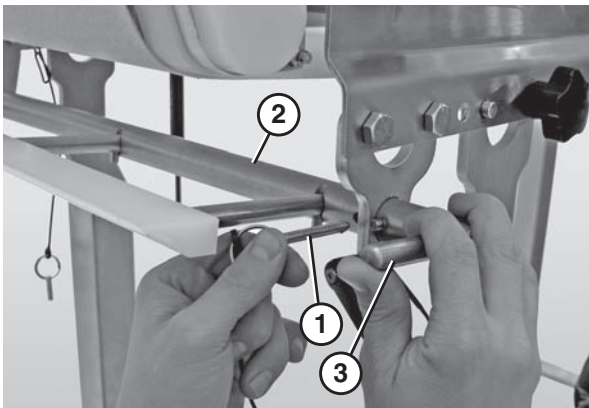

Figure 27
6. Insert the pin (Figure 27, item 1) to lock the scraper bar in place (Figure 27, item 2).
7. Adjust the scraper to the desired position using the scraper bar handle (Figure 27, item 3).